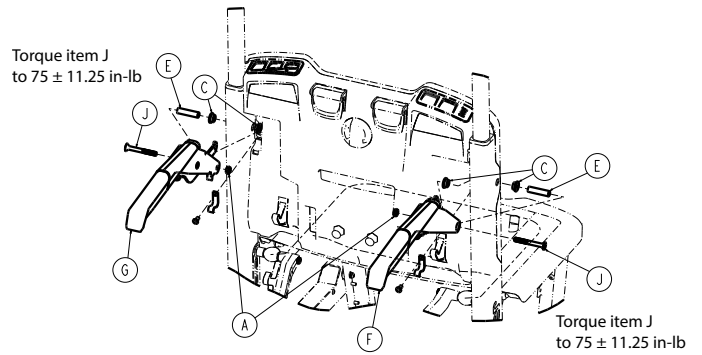

Figure 45 – Remove the upper carry handles
- a. Using a 7/16" hex and T27 Torx driver, remove the flat countersunk head caps screws (J) and Nylock nuts (A) that secure the upper carry handle assemblies (G and F) to the product (Figure 45). Save the screws and nuts.
13. Remove the upper carry handle main pivot sleeves (E) and flange bearings (C) (Figure 45). Save all parts.